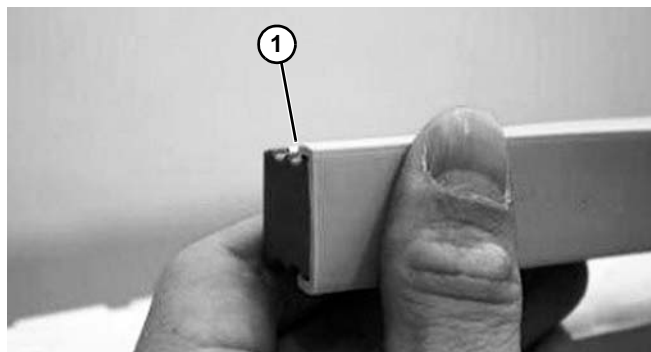

Figure 103
2. Make sure that all cover joints (**Figure 103, item 1**) are smooth, so that products do not get caught or damaged. Covers are not required on guide rail joints.